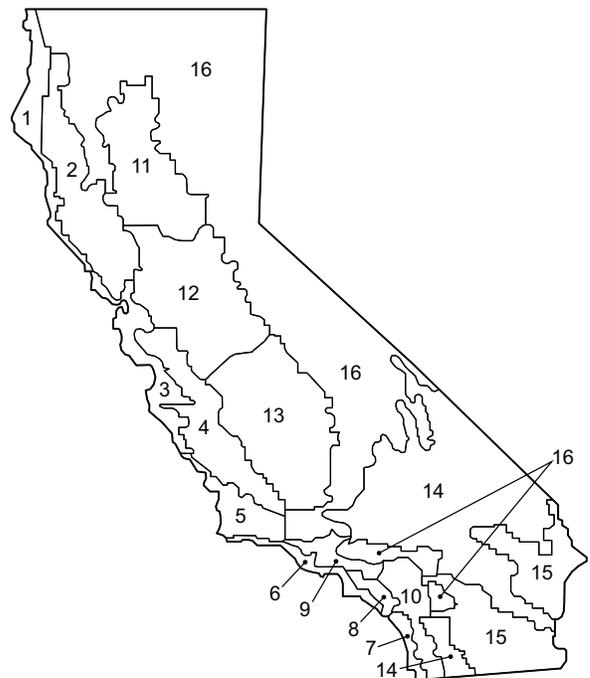

Fig. 89 – California Title 24 Zones
- b. Refer to Fig. 89 for map of California Title 24 zones.